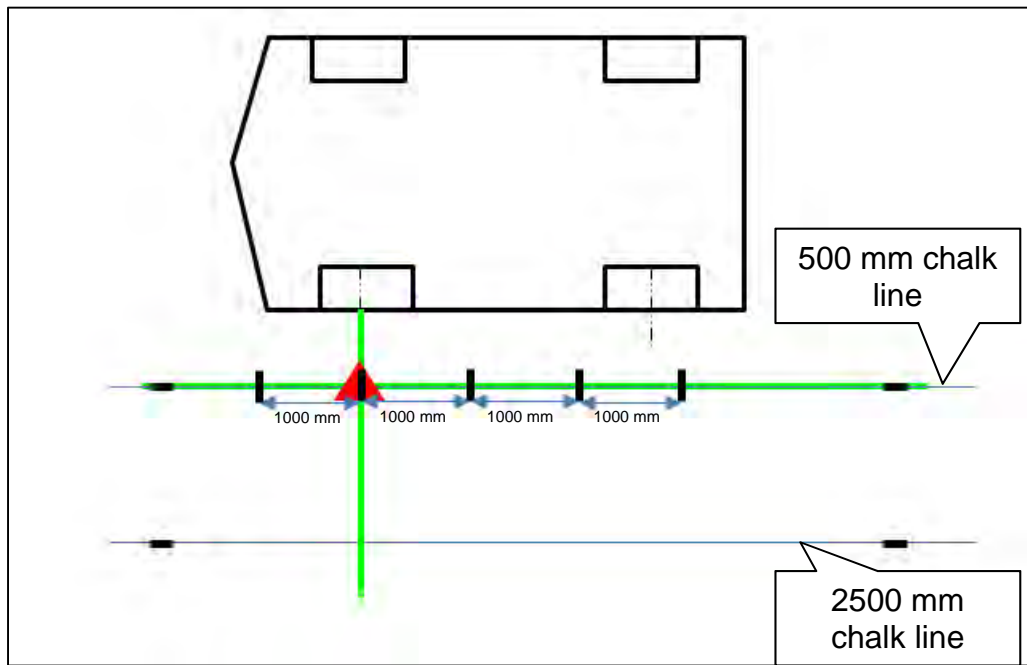
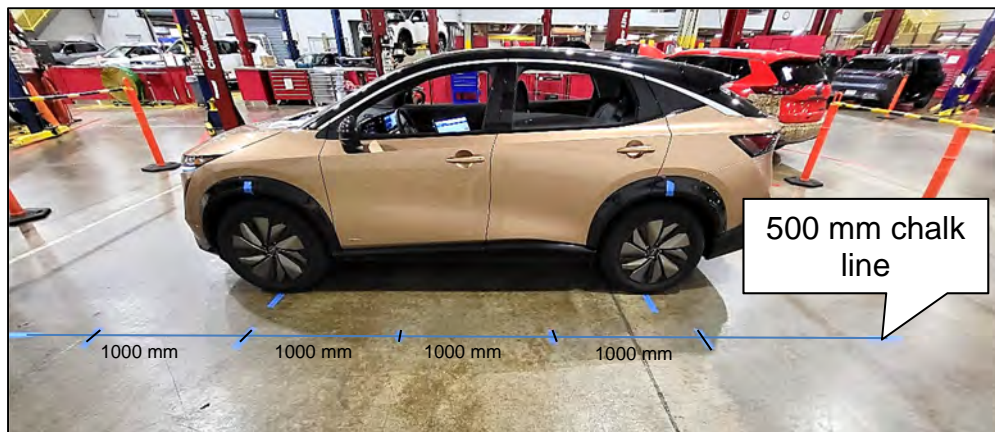

Figure 30
Figure 31
26. Measure and mark 1000 mm increments, as shown in Figure 30 and Figure 31.